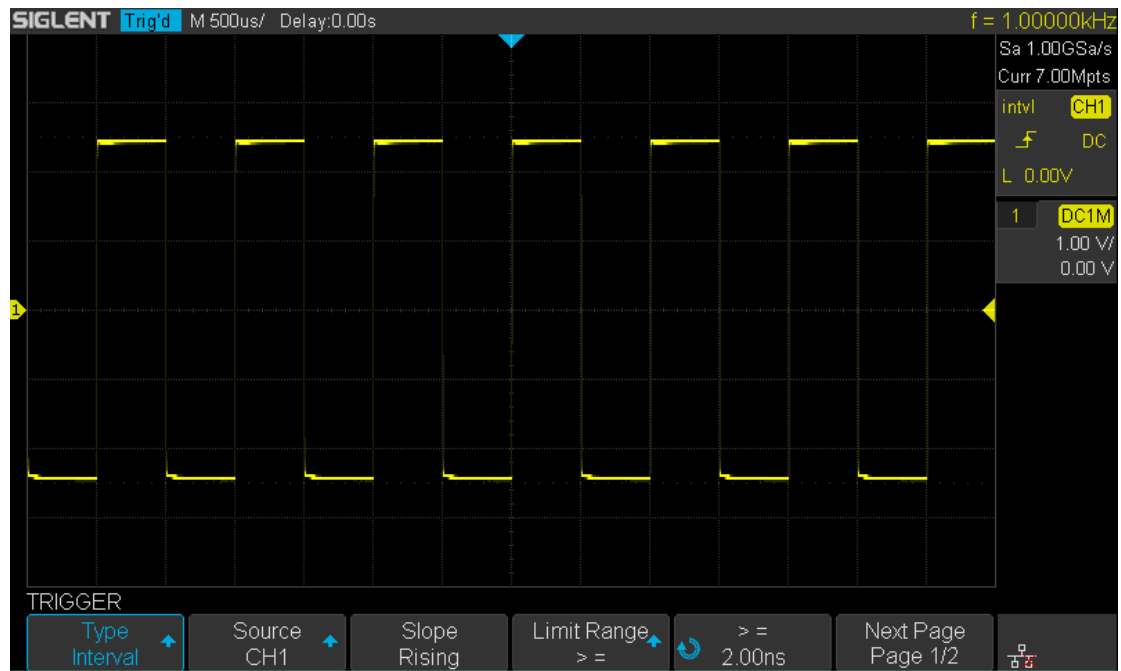

Figure 34 Interval Trigger
1. Press the **Decode** key to enter the **DECODE** function menu as Figure 34 shows.